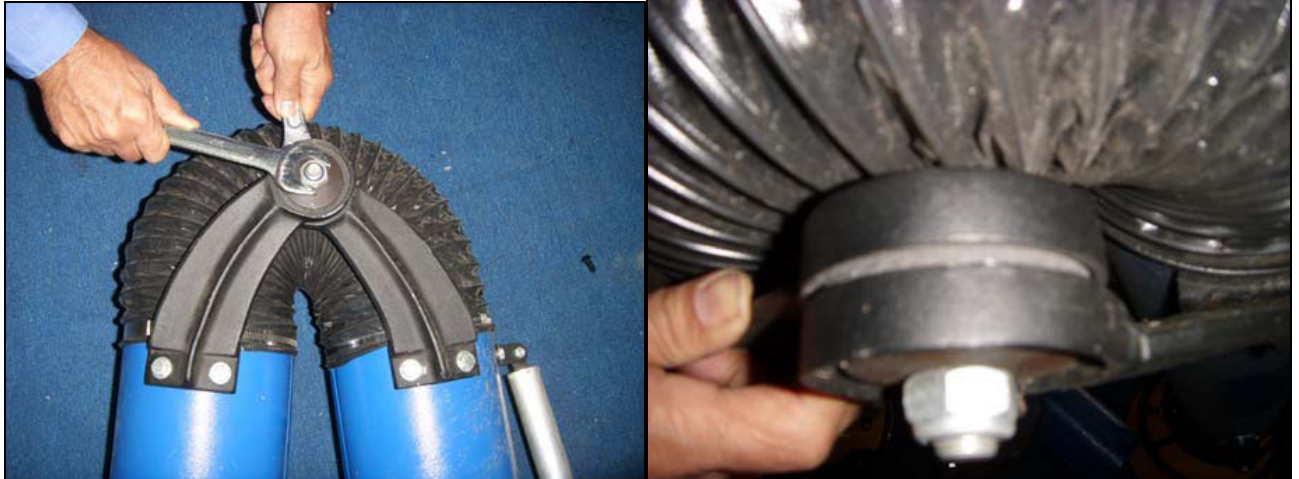

FIG4 - Swivel Joint Adjustment
- a. Tension adjustment is performed by tightening or loosening the self-locking nuts at each joint. Reference FIG4.